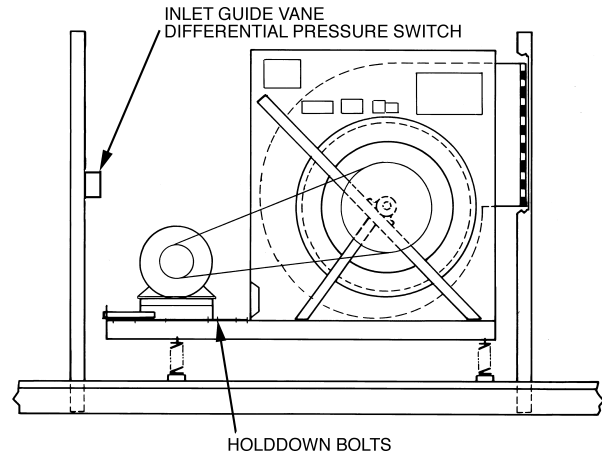

Fig. 80 — Motor Plate Adjustment
1. Loosen holddown bolts. (See Fig. 80.)
INLET GUIDE VANE DIFFERENTIAL PRESSURE SWITCH (Units With Optional Inlet Guide Vanes and Static Pressure Control) — The inlet guide vane differential pressure switch is mounted on an upright located behind the evaporator-fan motor. See Fig. 80.